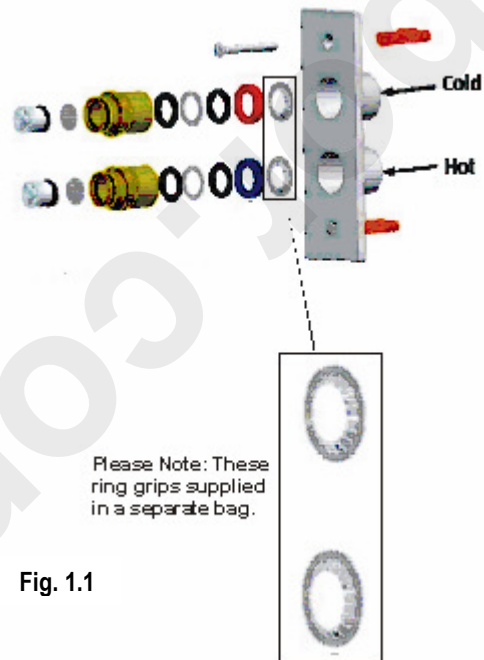
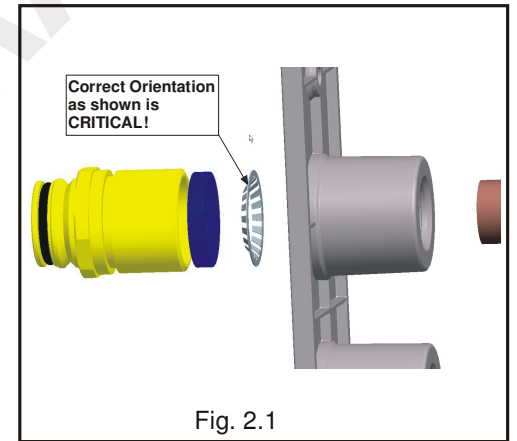

Fig. 1.1
Fig. 2.1
**4.4** Determine correct orientation and required position for the valve and arrange the pipework to suit. Pipework must be secure and unable to move in and out of the wall. If the pipework cannot be secured fully, the grip rings can be used to secure the pipes to the valves backplate. (See Fig.1.1 & Fig.2.1)
**4.11** Cut two pieces of pipe long enough to go through the wall and to meet pipework. Between 15-23mm of pipe needs to locate within backplate to ensure a seal. If the pipework is loose, it is necessary to fit the grip rings into the brass inserts. This will ensure the pipework cannot blow out once the water is connected, due to water pressure. Ensure the grip rings are correctly orientated. **(See Fig.1.1 & Fig.2.1)**